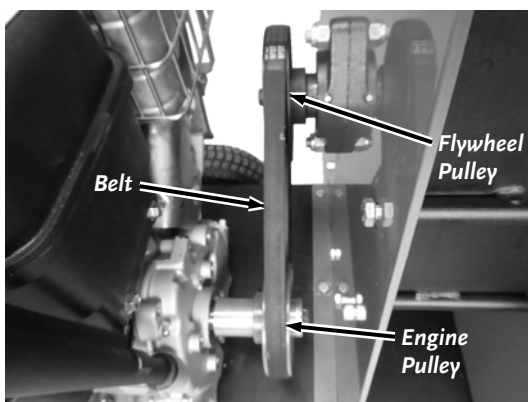

Figure 23
5. Install the new Belt onto the Pulleys (Figure 23) and refer to the applicable steps in the previous section "Checking and Adjusting Belt Tension" to tension the Belt properly.